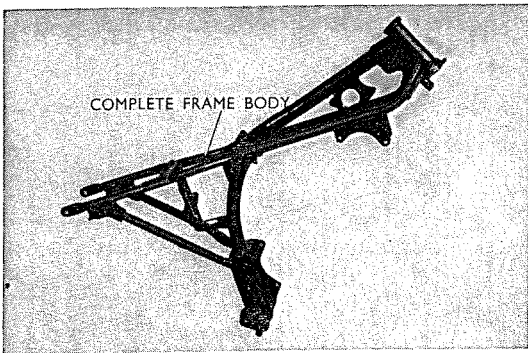

Fig. 4.37 Frame body
12. Following Section 4.7 B, (when the stand is removed) disassembly of the frame is completed. (Refer to Fig. 4.37)